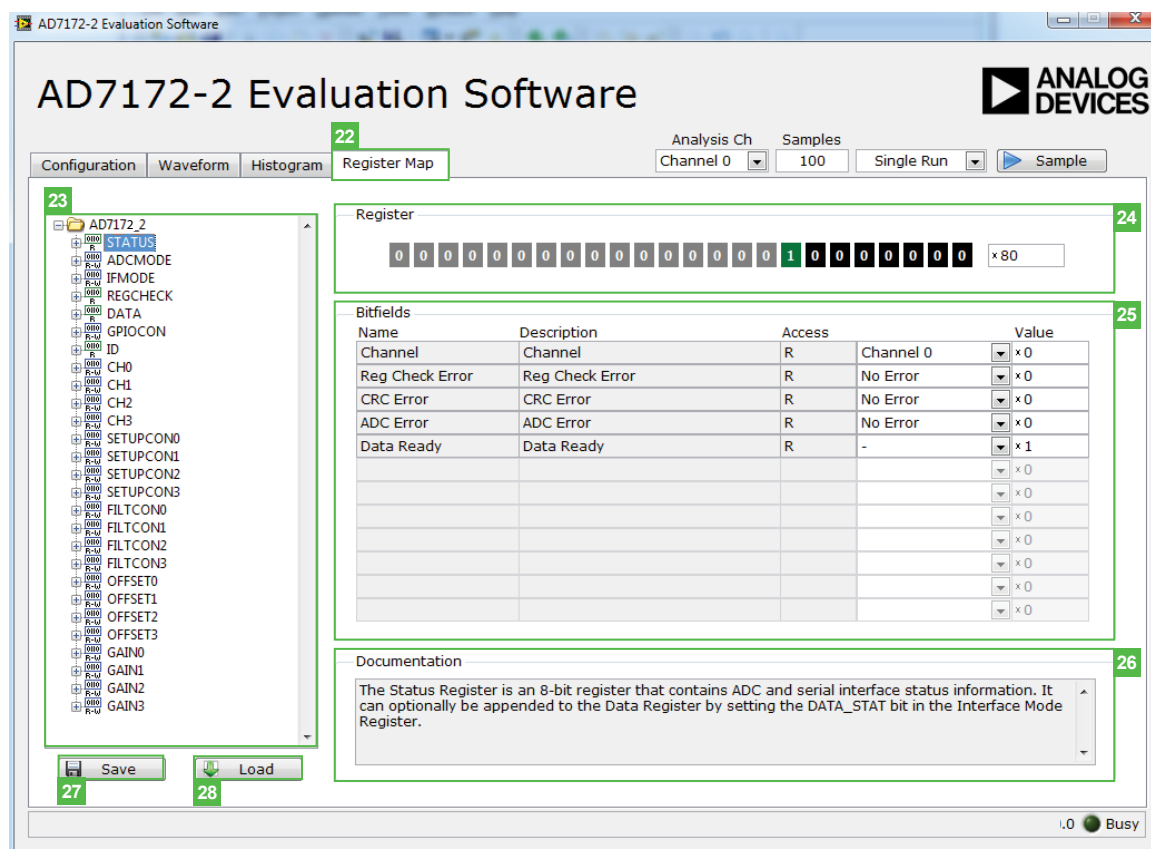

Figure 10. Register Map Tab of the AD7172-2 Evaluation Software
See Figure 10 for the **Register Map** (22) tab.
The register tree (23) control shows the full register map in a tree control. Each register is shown. Click on the **Expand** button next to each register to show all the bit fields contained within that register (see Figure 10).
The **Register** (24) control allows you to change the individual bit of the register selected in the register tree (23). Click on the bit in the register tree (23) or program the register value directly into the number control on the right (see Figure 10).
The **Bitfields** (25) list shows all the bit fields of the register selected in the register tree (23). Change the values using the drop-down menu or by directly entering a value into the number control on the right (see Figure 10).
The **Documentation** (26) field contains the documentation for the register of the bit field selected in the register tree (23) (see Figure 10).
The **Save** (27) and **Load** (28) buttons allow you to save the current register map setting to a file and load the setting from the same file (see Figure 10).